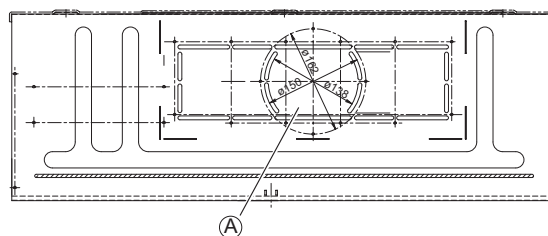

Fig. 2-145
- (4) If the system requires fresh air to be drawn into the unit, cut and remove the insulation (both externally and internally) at the location shown as (A) in Fig. 2-145.